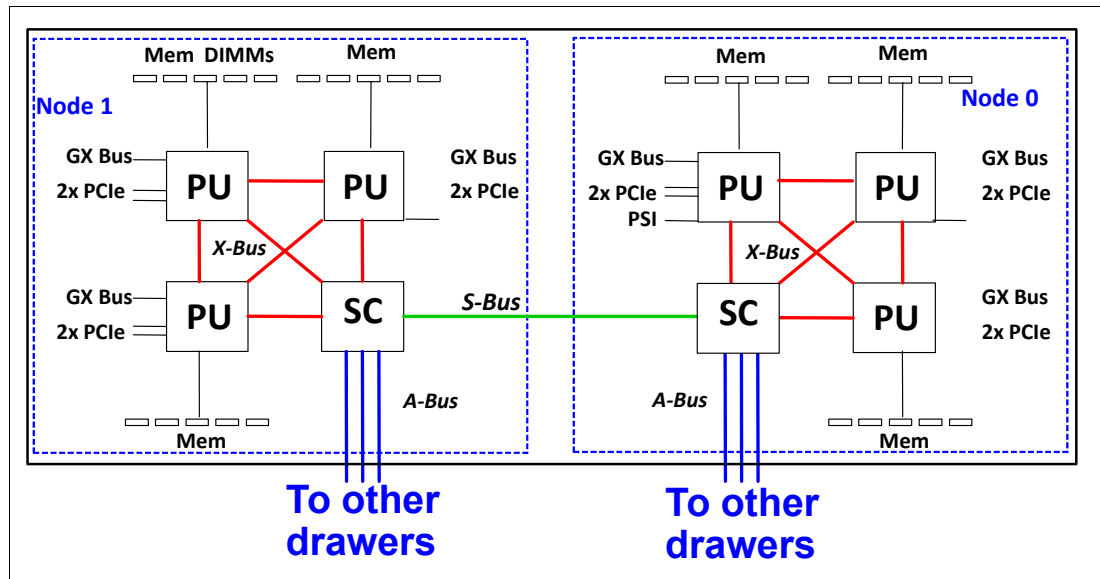

Figure 2-7 CPC drawer logical structure
Figure 2-7 shows the CPC drawer logical structure, component connections (including the PU SCMs), and the storage control (SC) SCMs.